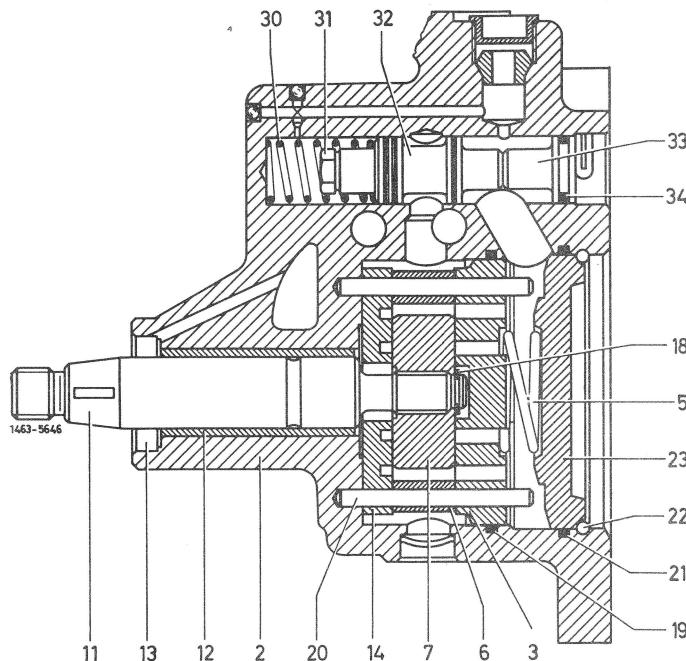

Fig. 1
- 3 Insert both cyl. pins (20) into pump housing, then insert preassembled drive shaft into housing (Fig. 1 and 3).
6 Insert O-ring (19) (Fig. 1 and 5), then thrust plate (3) into housing (2) (Fig. 1 and 6).
7 Insert O-ring (21) into housing. Place pressure spring (5) on pressure plate (3) (Fig. 1 and 7).
Note: O-rings (19) and (21) are of different diameter. The O-ring (19) with the small diameter seals the pressure plate (3), the larger O-ring (21) seals the cover (23) for housing (Fig. 1).